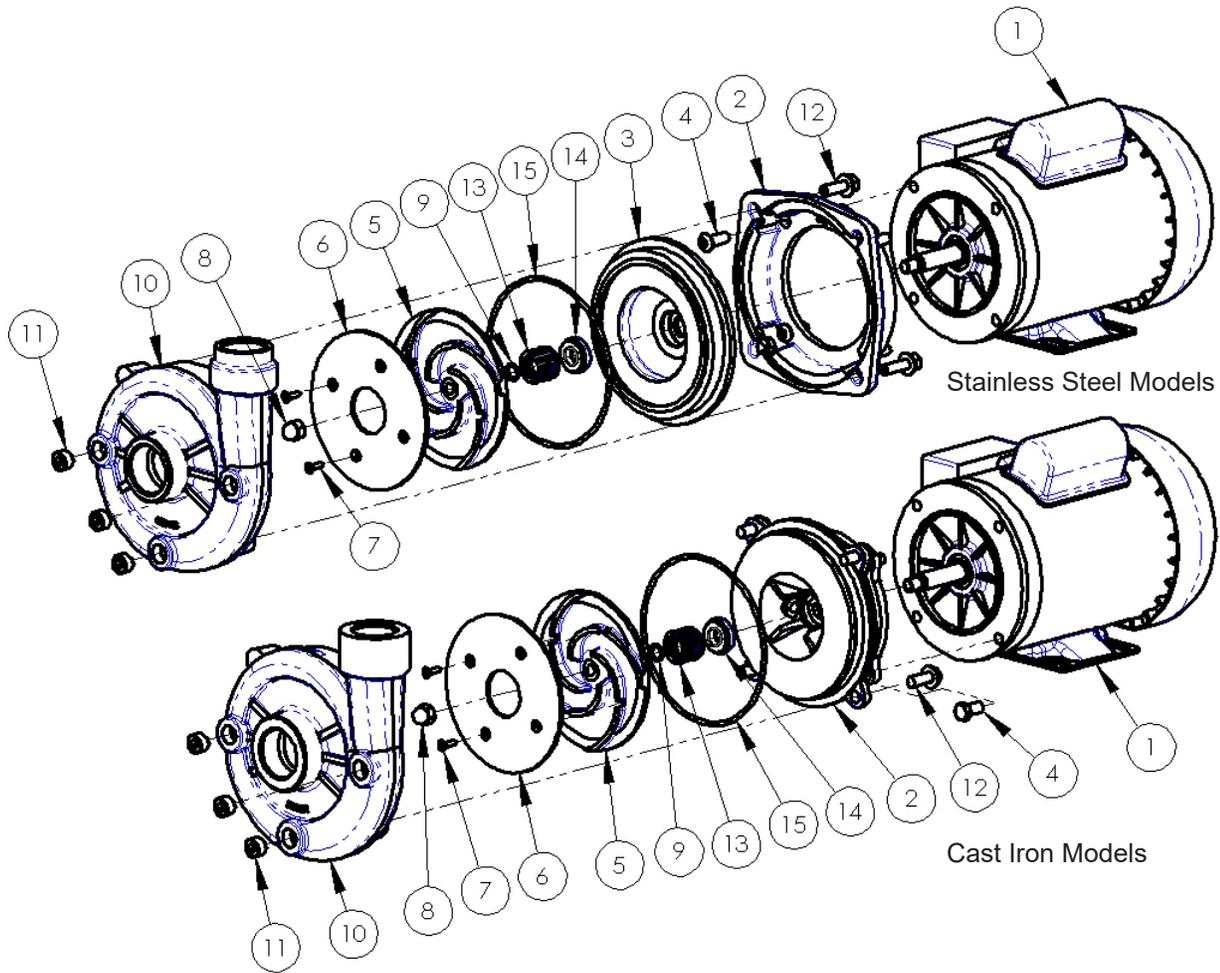

Figure 1 - Repair Parts Illustrations
Refer to Figure 1.
5. Wet the inside rubber portion of new seal head with a light coating of soapy water. Slide head onto motor shaft with sealing surface facing seal seat (see figure 1).